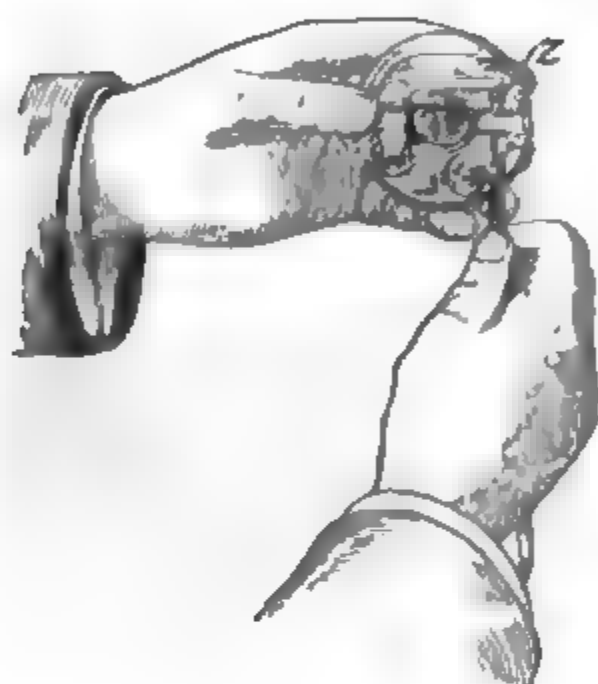

Fig. 143. Method of Adjusting Magneto Contact Points
i.e., a piece of paper must pass between them without getting jammed", Fig. 143.
**A.** The result of wear will usually be to increase the distance between the points, but the writer has experienced the opposite on an old car where the cam apparently wore down faster than the points and prevented their opening. This was probably due to improper hardening of the cam itself or to the fact that the roller was harder than the cam. Many of the later models do not employ a roller in the movable contact arm, the cam striking directly against a projection on the arm itself (see Eisemann interrupter, Fig. 143). An example of the roller type, is the K-W interrupter, Fig 69.